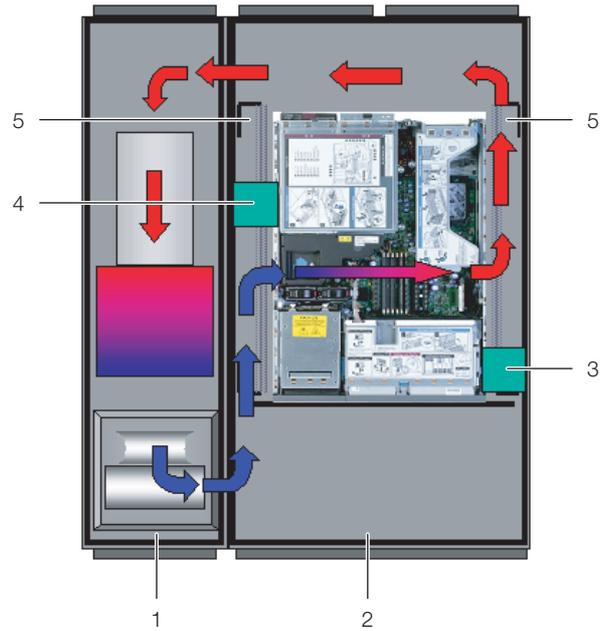

Fig. 17: Placement of foam strips for devices with sideways air throughput (top view) – LCP Rack DX
- If several devices which require sideways air throughput are included, cut out several pieces of the foam strip, as is appropriate, so that, ultimately, there is a cut-out in the foam to the left or right at the height of each such device in the server rack. Ensure that there are no gaps on the hot air side of the devices (fig. 17, item 3).
- Attach the foam strips to the cold air side of the devices set back towards the rear (fig. 17, item 4), making sure that all fans built into the devices can draw air and that none of them are blocked.
The foam strips can be attached between the front and rear uprights of the server rack along the entire depth of the devices with sideways air throughput (fig. 17, item 5).